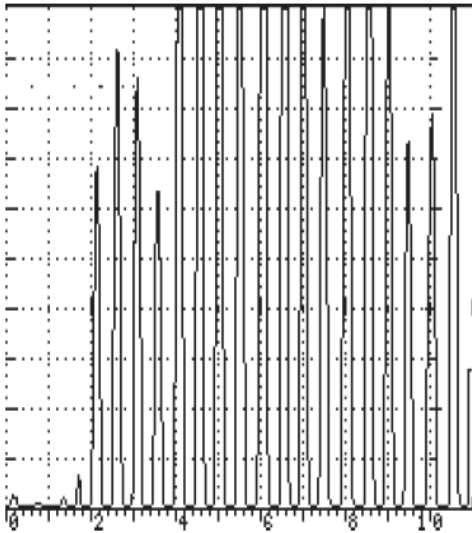

Figure 5-8. Pitch-Catch Echo from a 0.100 Step Block
6. Press the RCVR menu key, then the DISPLAY *menu soft key*, and rotate the SmartKnob™ to select HALF-. Observe the signals and select “+” or “-” depending upon which signal displays the largest amplitude of the first cycle (see **Figure 5-8**).
8. Adjust Gain by pressing the GAIN *menu soft key*, and rotate the SmartKnob™ to increase the first echo amplitude to approximately 70% of full screen height (refer to **Figure 5-8**).